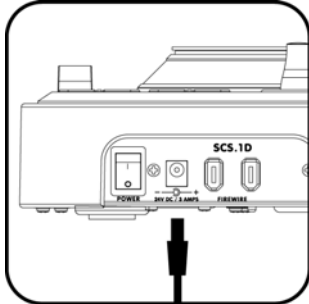

Figure 2.1
Step 1: Locate the included power cable and adapter (24V) and connect it to the SCS.1d and to your power source. (Figure 2.1)